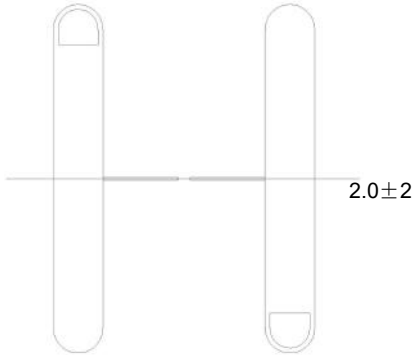

Figure 4-11 Alignment deviation (unit: mm)
- In addition to the above installation requirements, each device needs to ensure the levelness, verticality and deviation between each device, as shown in Figure 4-11, 4-12.